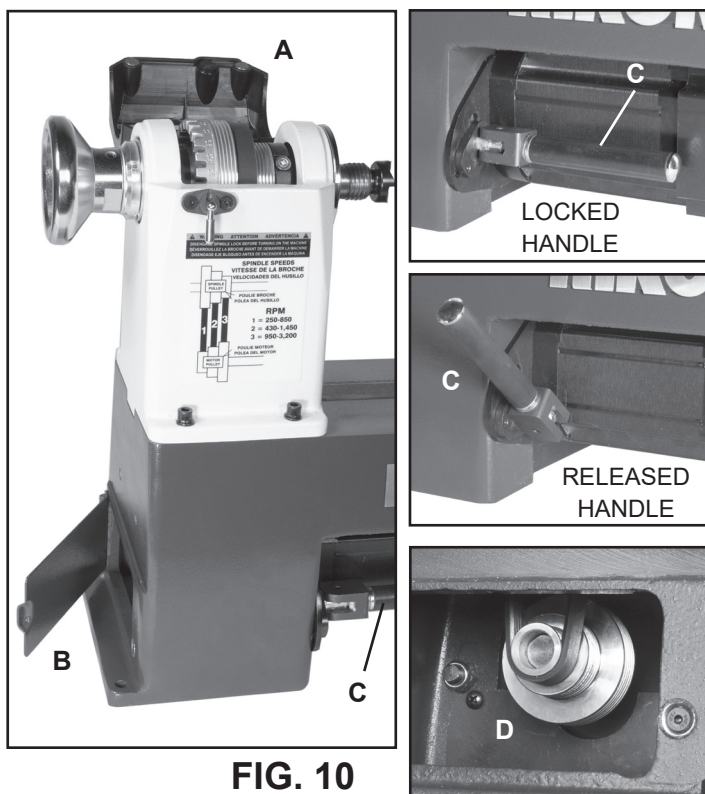
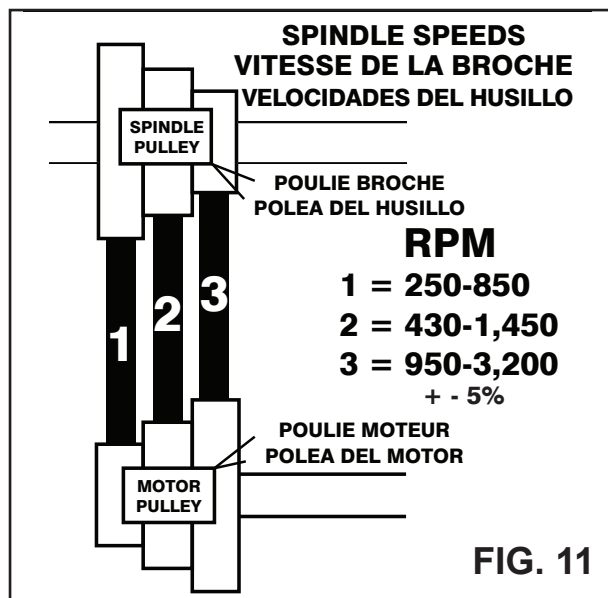

FIG. 10
FIG. 11
2. Open the top Headstock Cover (#14BA, FIG. 10, A) and the left side, Bed Cover Plate Door (#4A, B) to gain access to the belt and pulleys that are inside of the headstock.
- Pull the handle forward to unlock. FIG. 10, C.
4. - Change the belt position on the two pulleys. The Poly-V-Belt (#38B) can now be re-positioned on the upper Spindle Pulley (#7B) and lower Motor Pulley (#24A, FIG. 10, D) for the desired speed range setting. FIG. 11 shows the belt positions for the three speeds.